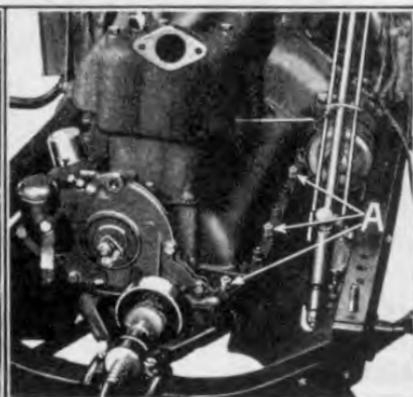

Fig. 26
23. **Remove engine pan-left** by loosening the three crankcase bolts which hold pan to crankcase (See "A" Fig. 26) and withdrawing pan.